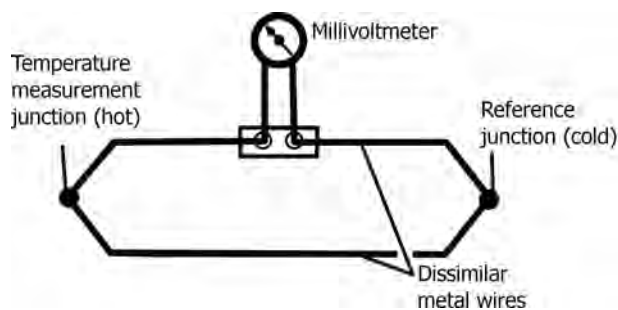

FIGURE 8.3 Simple thermocouple circuit.
- Figure 8.3 illustrates a simple thermocouple circuit.